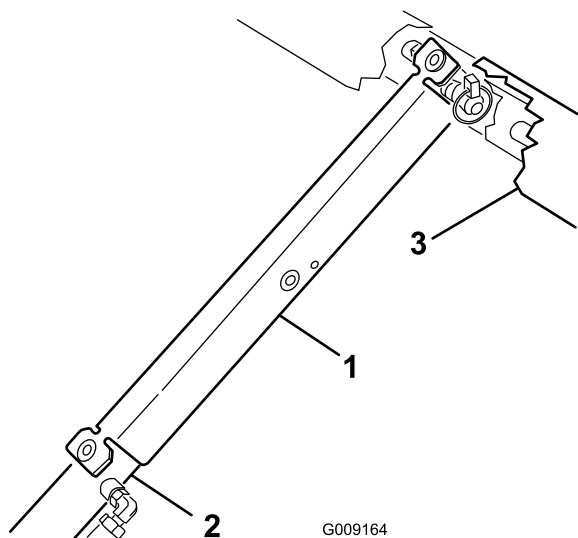

Figure 3
- C. Push the sprayer tank support onto the cylinder rod, making sure the support end tabs rest on the end of cylinder barrel and on the cylinder rod end (Figure 3).
1. Pull the sprayer tank support from the cylinder rod and remove the support (Figure 3).